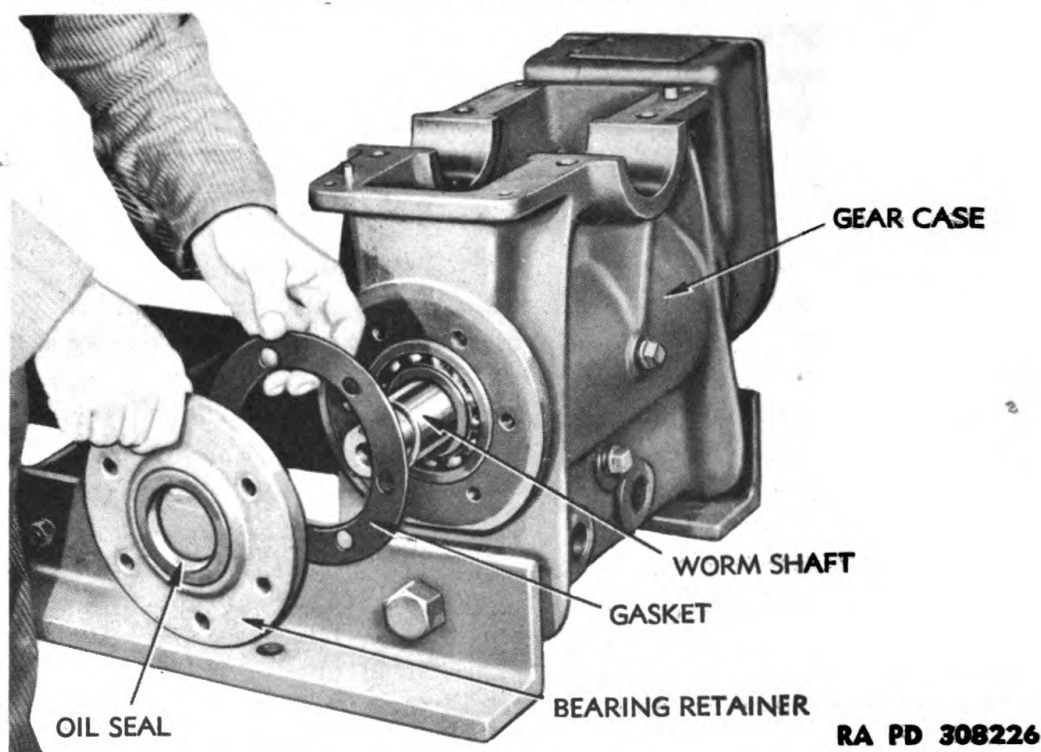

Figure 124 — Installing Front Bearing Retainer
g. Remove Front Bearing Retainer From Gear Case. Remove six cap screws from front bearing retainer on gear case and remove retainer and gasket (fig. 124).
e. Install Front Bearing Retainer. Press oil seal into retainer with lip of seal facing attaching face of retainer, in same manner as in subparagraph d, above. Shellac gasket to gear case and install retainer on gear case with six cap screws with lock washers (fig. 124). Use care not to damage oil seal in installation.